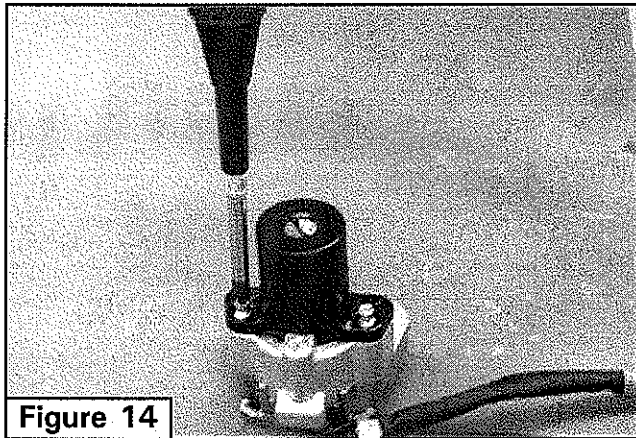

Figure 14
12. Secure the cylinder cap with the break-off screws. Tighten the screws evenly until the screw heads break off (Figure 14). Install the plastic caps (provided in the kit) on the cylinder cap over the break-off screws. Install the ignition switch assembly (refer to Service Manual page 1H-12). Be certain to use the pre-coated bolts provided in the recall kit when installing the new ignition switch.